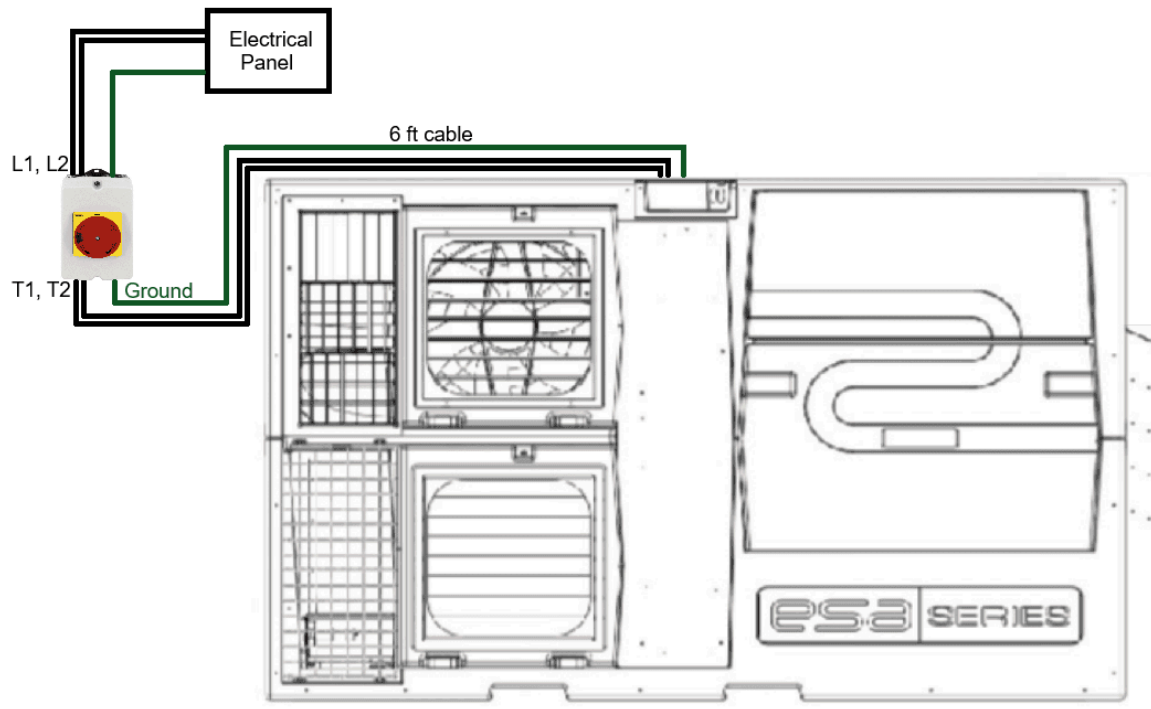

Figure 23 Exchanger Disconnect switch and electrical connections
- a. The 240VAC cable (SJ00W 3c/14 AWG) is connected to a manual control device, namely the power disconnect switch supplied by ESA. This switch will safely disconnect all conductors at the power supply point. Each ESA-3000 must have its own dedicated switch. Figure 23 illustrates the switch supplied by ESA.